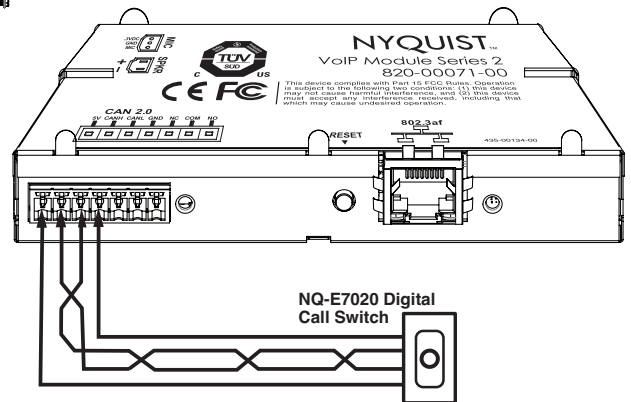

Figure 8: CAN bus connector with multiple digital call switches
3. When applicable, use the pluggable CAN bus connector to attach one or more NQ-E7020 Digital Call Switches to the Nyquist VoIP Module 820-00071-00, as shown in **Figure 8**.